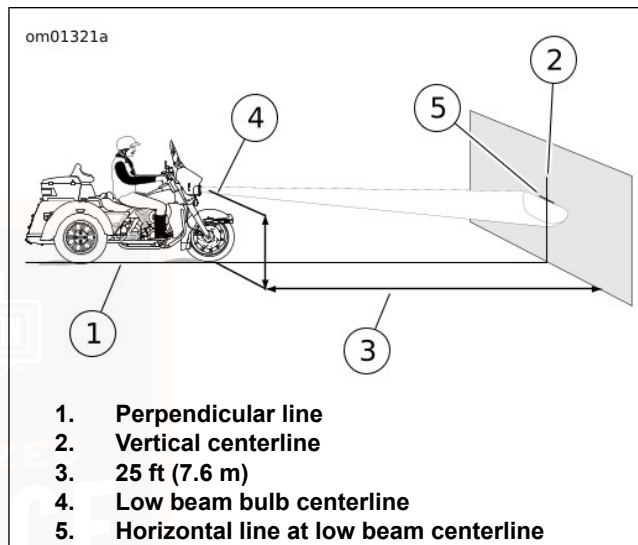
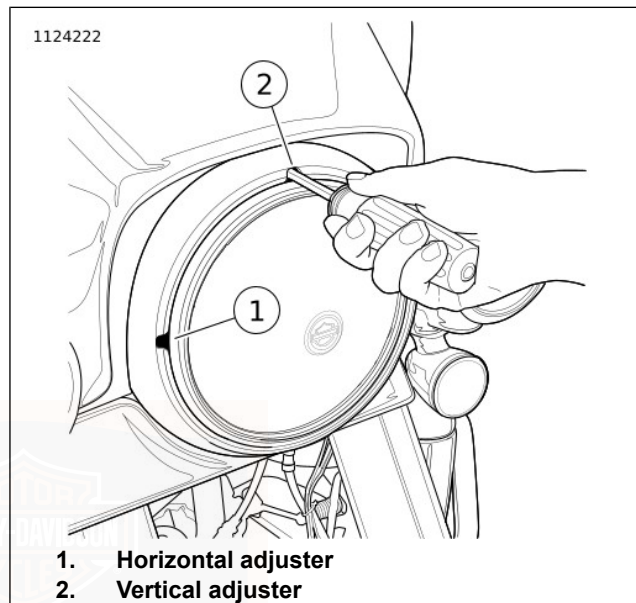

Figure 75. Headlamp Alignment: LED
Figure 76. Headlamp Adjusters: All except Frame-Mounted Fairing (typical)
4. See Figure 75. Park the motorcycle on a line (1) perpendicular to the wall.
6. Draw a vertical centerline (2) on the wall.
7. With the motorcycle loaded, point the front wheel straight forward at wall. Measure the distance (4) from the floor to the center of the **low beam (upper)** lens.
8. See Figure 75. Draw a horizontal line (5) through the vertical line at measured height.
See Figure 75. The headlamp is aligned when the top of light beam hot spot is located as shown with headlamp set to **low beam**.
9. See Figure 75. Verify headlamp alignment.
2. See Figure 76. Insert a 5/32 ball end hex wrench through adjuster slots in trim ring.
- a. **Horizontal:** Turn the horizontal adjusting screw (1) to adjust light beam left and right.
- b. **Vertical:** Turn the vertical adjusting screw (2) to adjust light beam up and down.
3. See Figure 75. Adjust headlamp **low beam** as shown.